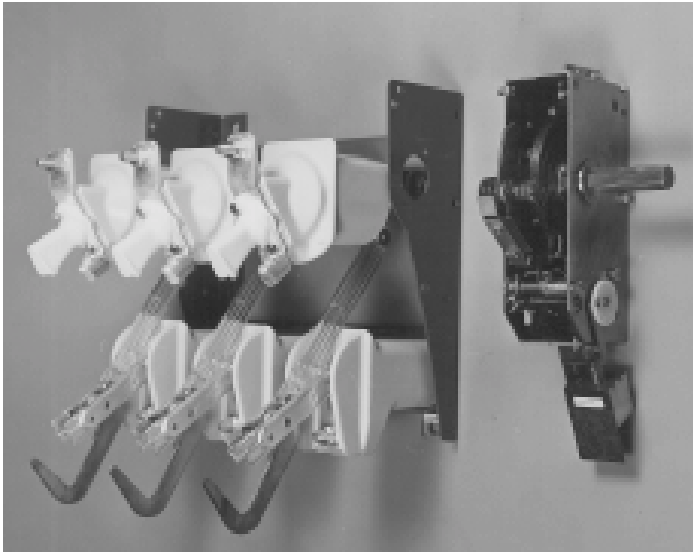

fig. 9
4.0 MOUNTING THE MECHANISM ON THE SWITCH. FIG. 9
fig. 9 a